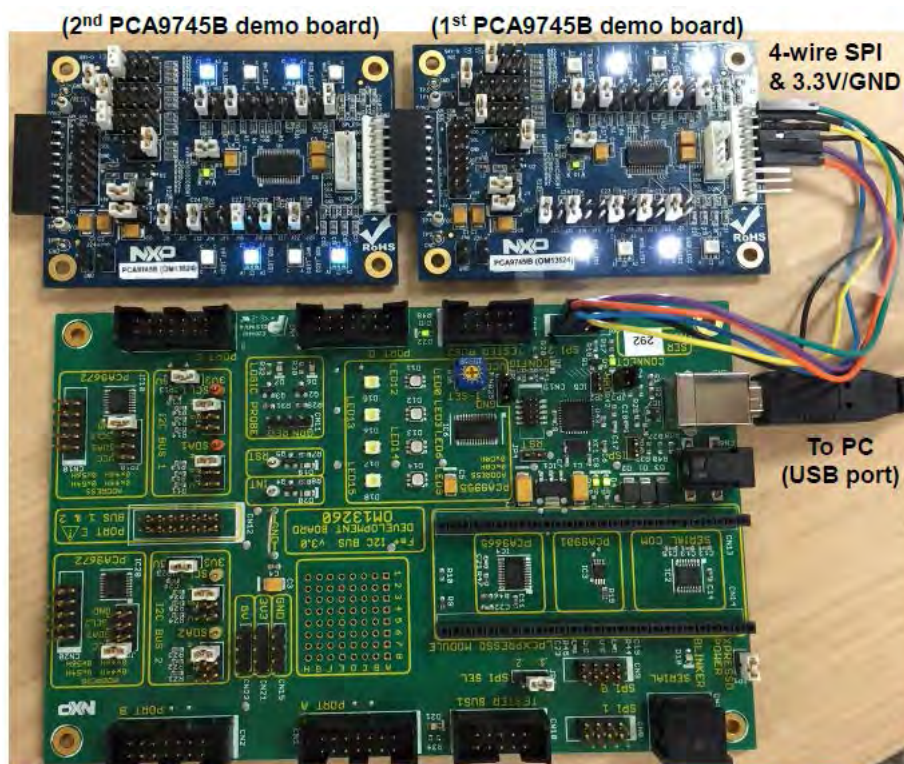

Fig 10. Two PCA9745B demo boards connecting to the Fm+ development board
3. The Fm+ development board as SPI master drives two PCA9745B demo boards in daisy-chain as shown in the Fig 10. After open the “SPI daisy chain demo with two PCA9745B devices” text file, the “NXP Fm+ Board GUI” in Expert mode screen will be displayed all messages, then click the ‘Send All’ button, all the valid messages on the screen will be sent in the order of the row number (Msg #). The action will be performed one time.
| Fig 10. | Two PCA9745B demo boards connecting to the Fm+ development board .....                | 23 |